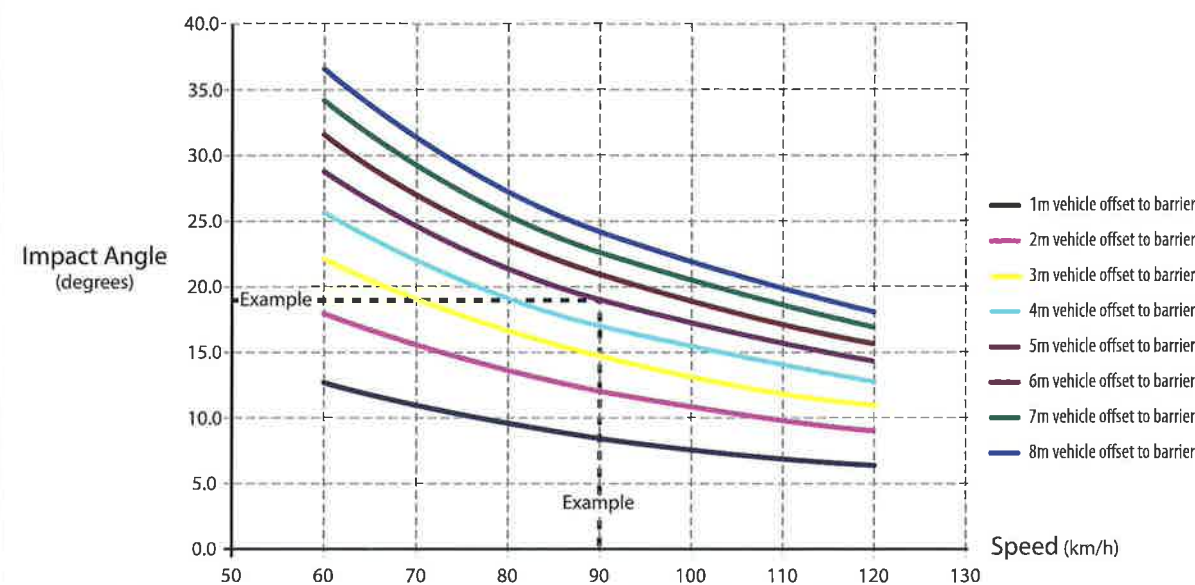

Figure 5: Maximum Attainable Angle by Speed and Offset.
The maximum attainable angle for various speeds and offsets is shown in Figure 5 and is derived using a point mass model and assumes maximum steering and a coefficient of friction of 0.7 (dry pavement). Once the impact angle is determined, dynamic deflections for various design vehicles can be selected from Tables 1 or 2.
Step 1: Using Figure 5, the maximum attainable angle is calculated as 20 degrees.